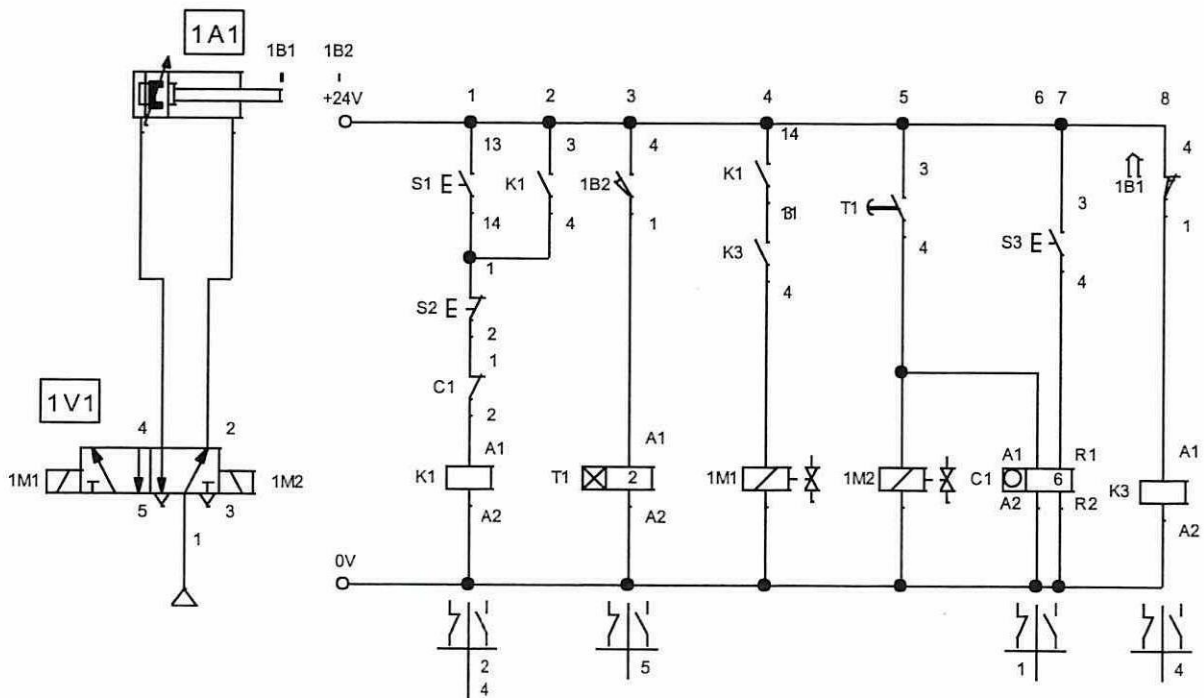

Figure Q3.2 An Electro-Pneumatic Circuit with Oscillating Motion
- (d) An electric circuit in the Electro-Pneumatic Diagram has the same concept as the Ladder Diagram. Construct the corresponding Sequential Function Chart (SFC) for the following electro-pneumatic circuit in **Figure Q3.2**.